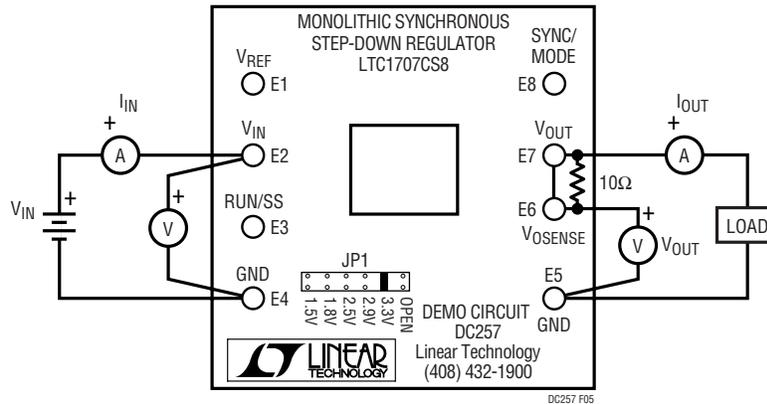

Figure 5. Proper Measurement Setup
- Refer to Figure 5 for proper connection of monitoring equipment to ensure correct measurement.
When trying to measure voltage regulation, remember that all measurements must be taken at the point of regulation. This point is where the LTC1707’s control loop looks for the information to keep the output voltage constant. In this demonstration board, this information point occurs between Pin 4, the GND of the LTC1707, and the output side of R7. These points correspond to the GND (E5) and  $V_{OSENSE}$  (E6) terminals of the board. Output voltage test leads should be attached directly to these terminals. The load should be placed between  $V_{OUT}$  (E7) and GND (E5). Measurements *should not* be taken at the end of test leads at the load. Refer to Figure 5 for the proper monitoring equipment configuration.